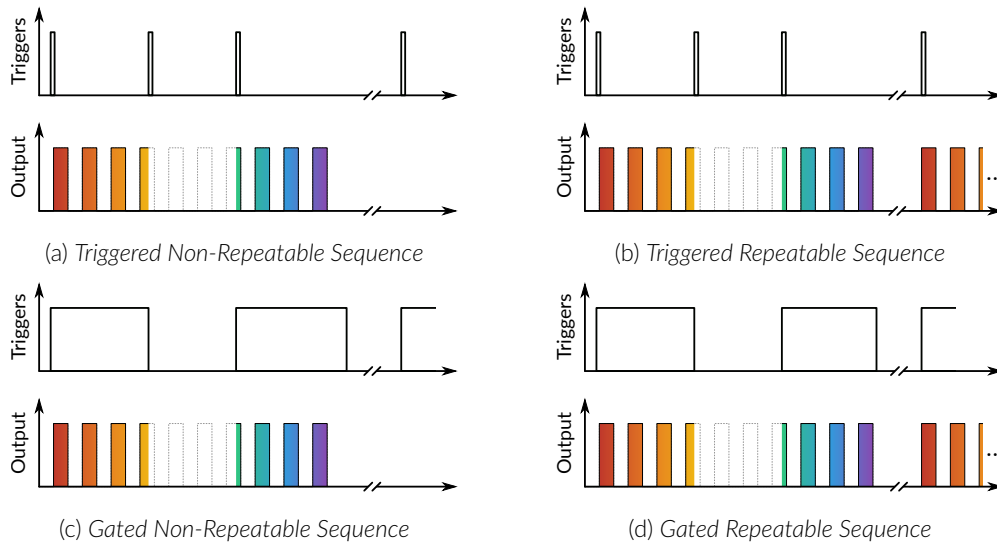

Figure 4.5: Continue Sequence Mode
- **Continue:** This mode activates the channel sequence when a rising edge greater than 3.3 V is detected on the BNC input (Fig. 4.5). The following input pulse (when *Triggered*, Fig. 4.5a) or a falling edge (when *Gated*, Fig. 4.5c) will turn off the output, but the sequence will continue. The output will be turned back on at the reception of the following rising edge. Triggers only affect the output voltage value. When the **Repeatable sequence** checkbox is checked, the sequence will restart with the arrival of the first input pulse after the sequence has finished (Figs. 4.5b and 4.5d).